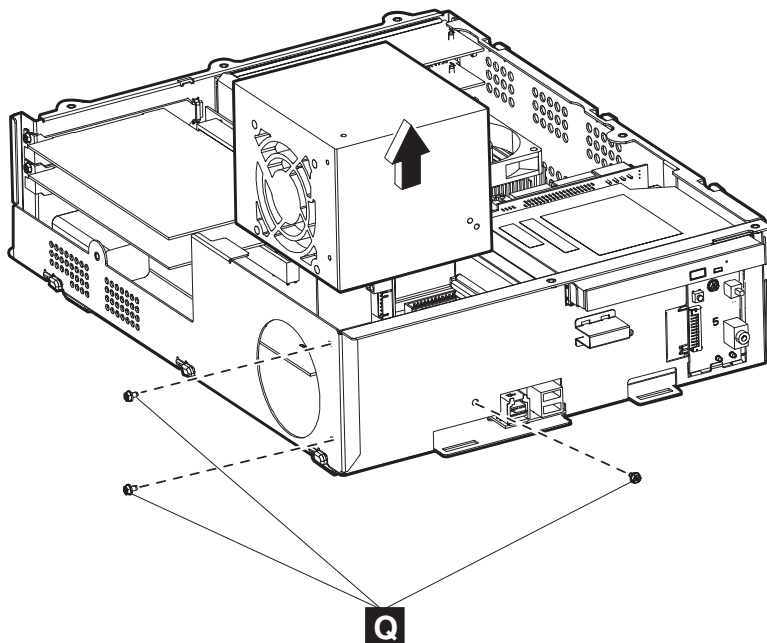

Figure 36. Removing the power supply
6. See Figure 36 on page 48. Remove the screws (**Q**) holding the power supply to the housing.